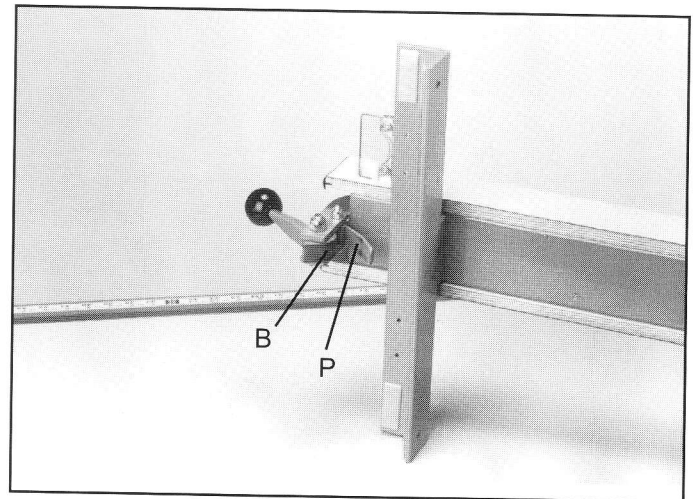

Fig. 32
10. Apply grease to locking handle (B) and camfoot (P) Fig. 32, monthly to prevent wear.